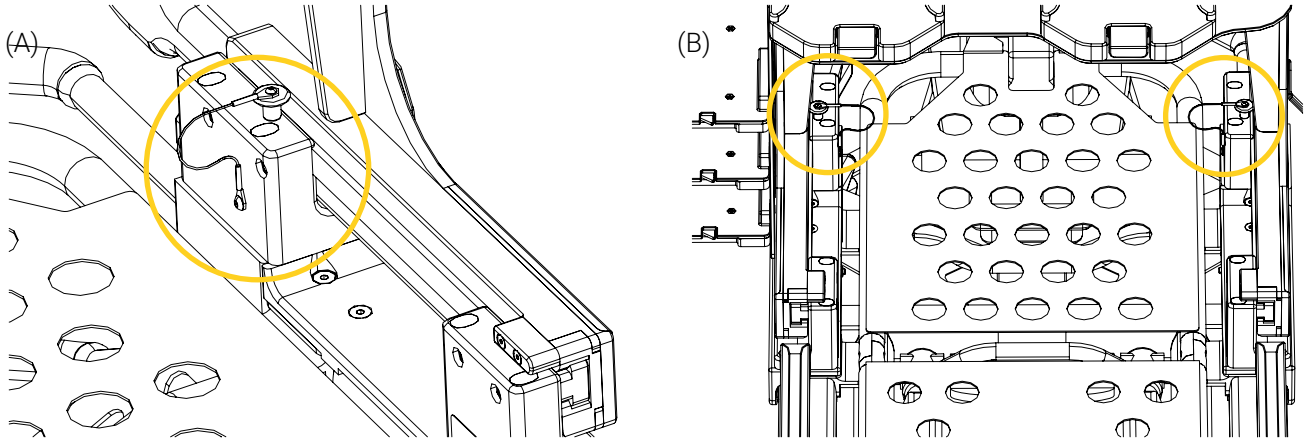

Figure 48: Lock pins installed
21. Reinstall the lock pin on the XTPA-PPXT Rail clamp blocks on the both sides of the mobile structure (Figure 48), making sure that the lock pins are properly inserted.